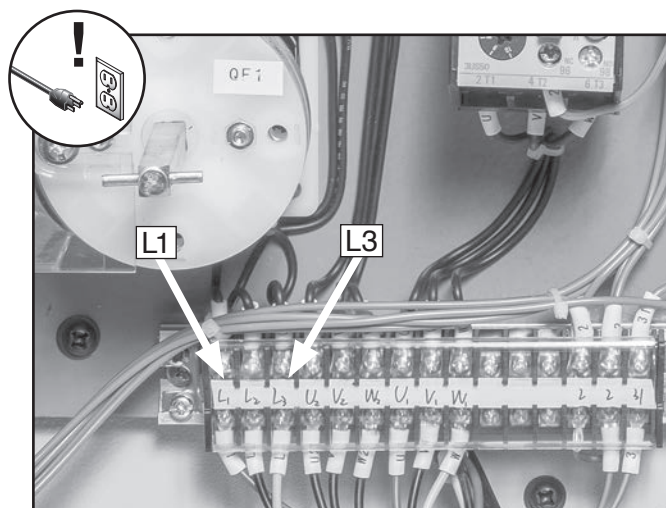

Figure 36. Location of **L1** and **L3** terminals.
2. Open electrical cabinet and swap wires connected to **L1** and **L3** terminals (see **Figure 36**).